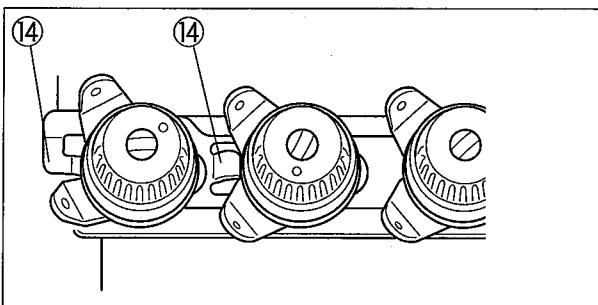

Fig. 4
6. Press the lifter lever⑦ down, and check if the hook⑭ on the thread tension release plate goes between the tension discs⑮ and thread tension has been released. (Fig. 4, 5)